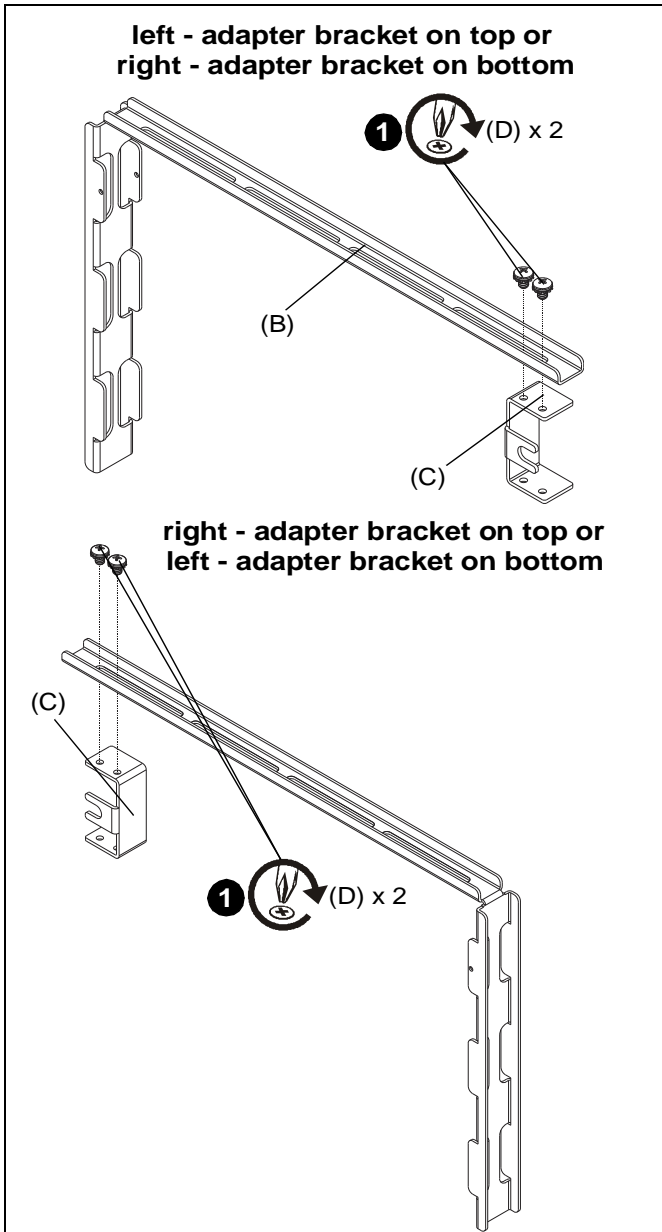

Figure 1
1. Use two #10-24 x 1/4" Phillips pan machine screws (D) to secure each adapter bracket (C) to corresponding extension bracket (B). (See Figure 1)
NOTE: Brackets may be installed in either orientation shown in Figure 1 depending on user preference.